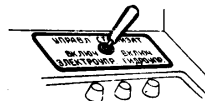

Fig. 7. The stabilizer hydraulic amplifier is switched ON.
70. Before taxiing out make sure that the emergency braking lever is in the forward position, the front wheel brake is off, the undercarriage lock lever is unlocked and the hydraulic amplifiers controlling the stabilizer (fig. 7) and ailerons are switched on.